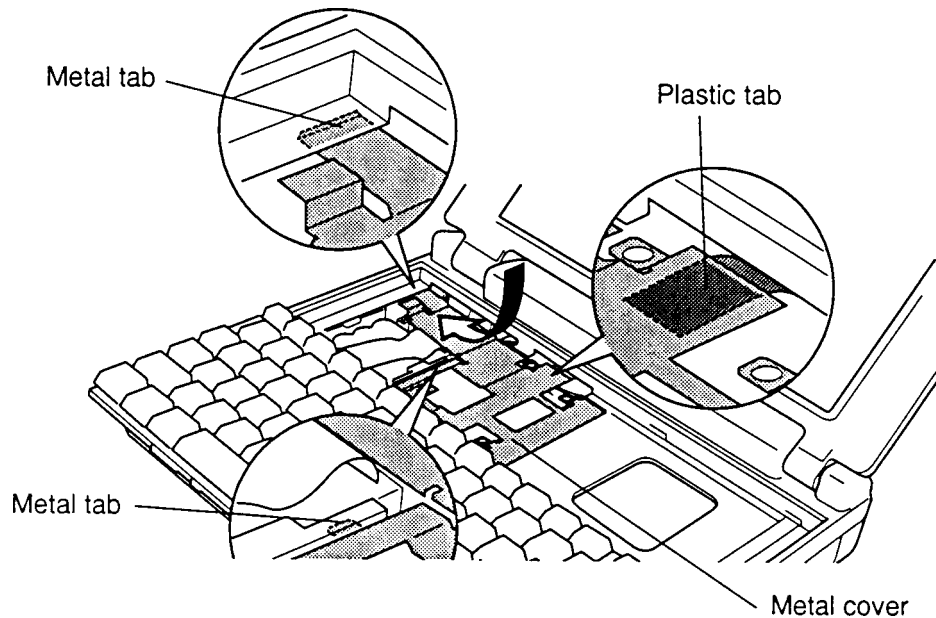

Figure 4-14 Seating the metal cover
2. Fit the two tabs of the metal cover into the top cover and backup battery base (Figure 4-14). Then seat the **metal cover** and secure it with **five M2.5x6 screws**. Make sure the plastic tab on the LED connector is under the metal cover. Be sure to replace the ground cable.